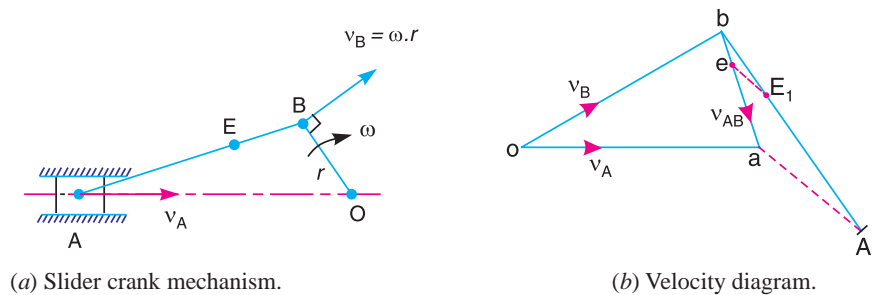

Fig. 7.5
A slider crank mechanism is shown in Fig. 7.5 (a). The slider A is attached to the connecting rod AB . Let the radius of crank OB be r and let it rotates in a clockwise direction, about the point O with uniform angular velocity ω rad/s. Therefore, the velocity of B i.e. v_B is known in magnitude and direction. The slider reciprocates along the line of stroke AO .
1. From any point o , draw vector ob parallel to the direction of v_B (or perpendicular to OB) such that $ob = v_B = \omega.r$, to some suitable scale, as shown in Fig. 7.5 (b).